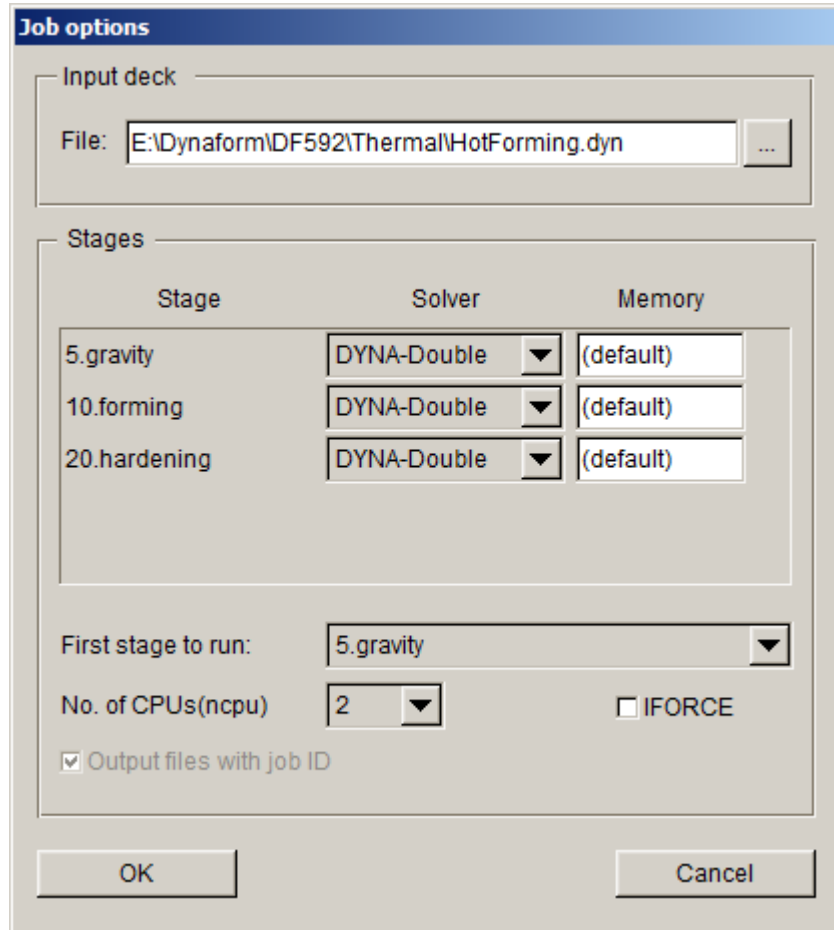

Figure 1.35 Job options
2. The program pops up a Job Options dialog box illustrated in Figure 1.35. LS-DYNA double precision solver is adopted for calculation in the hot forming analysis.